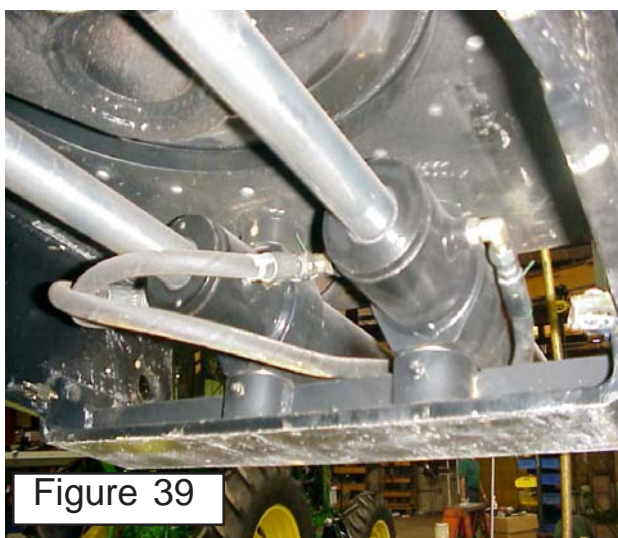
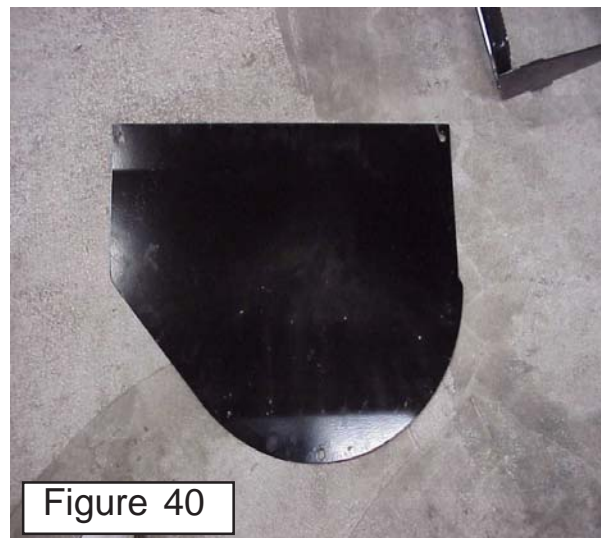

Figure 39
Figure 40
4. Turret Assembly Grease Fittings. The turret assembly has three grease fittings around the OD of it. The grease fittings are 120° apart, this is to make certain that the bearing will be greased all the way around because of the large diameter of the bearing. This bearing must be greased before unit is put into service. It is easier to get to grease fittings now than after boom has been installed. On the under side of the turret assembly are the grease fittings for the swing cylinder pivot mounts, these need to be greased before operating the unit. Also there is a bolt on cover on the under side of turret that will be installed (See Figure 40) at a later time. Greasing the cylinder pivots will need to be done before the cover is installed (See Figure 39) and the boom swing stop will need to be adjusted, but this cannot be done until a later time making it best to leave this cover off until then. After greasing components at assembly of unit operator should consult the operators manual for maintenance requirements.